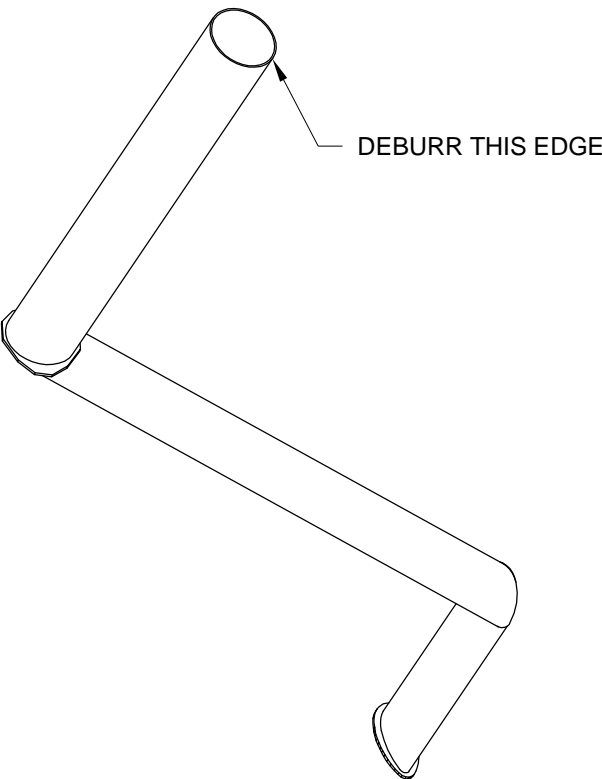

FIGURE 2: DEBURRING THE STEP
Step 2: Deburr the edge of the WD-1007-L Step as shown in Figure 2.